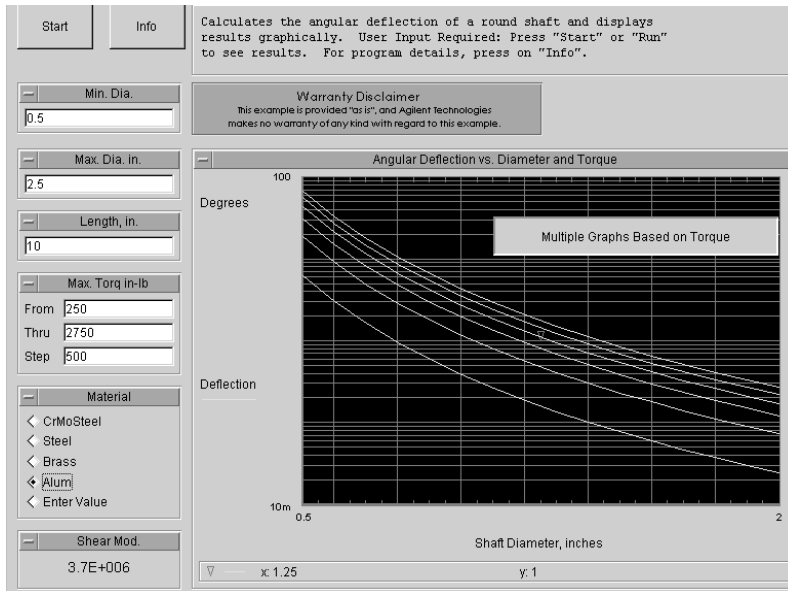

Figure 12.6. Deflection in degrees versus shaft diameter
- 11. Run this program; it should look like Figure 12.6.